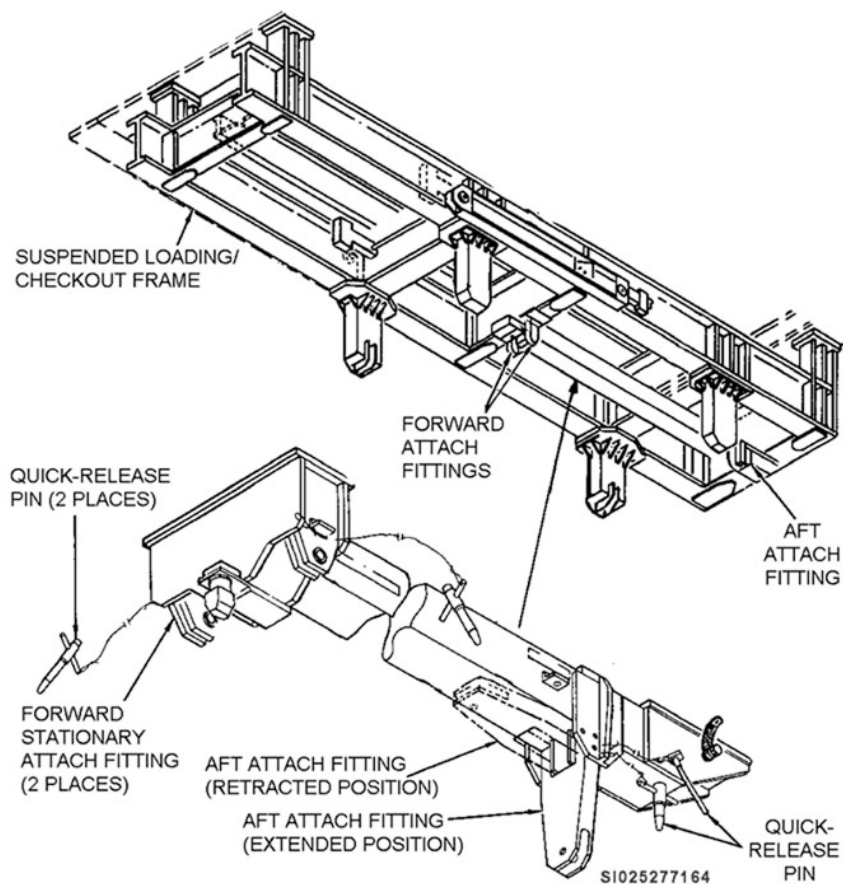

Figure 3-6. Retracted aft pylon attach fitting.
1. Place the SLCF aft pylon attach fitting in the retracted (up) position (fig. 3-6).